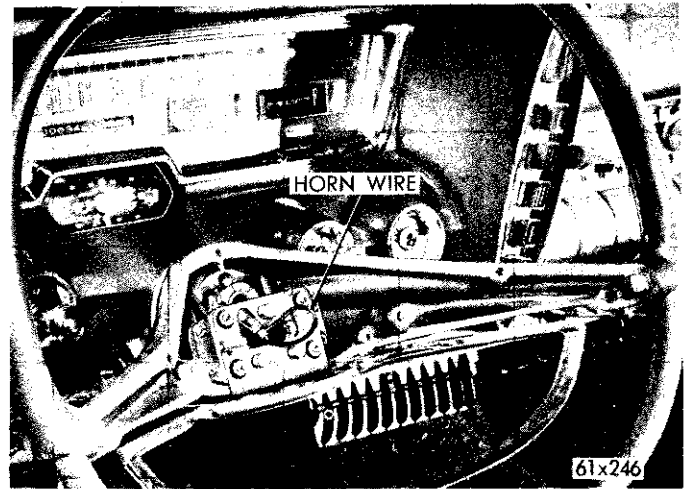

Fig. 14—Horn Switch and Horn Wire
(2) Remove the two screws from the underside of the steering wheel and remove the horn blowing actuator and steering wheel cover.
(3) Disconnect the horn wire at the horn blowing switch.
(4) Remove the four screws and insulators and remove the horn blowing switch (Fig. 14).